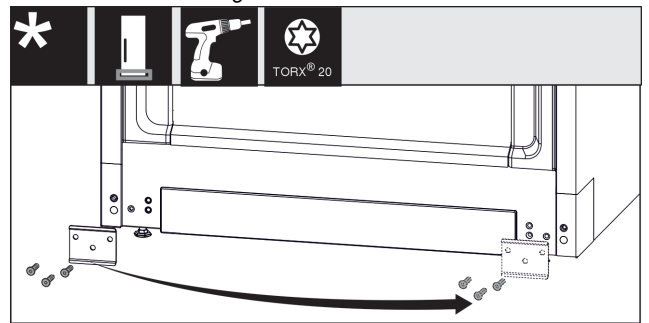

Fig. 18
- ▶ Unscrew the metal plate, move it to the other side and screw it on again. *Fig. 18 (1)*